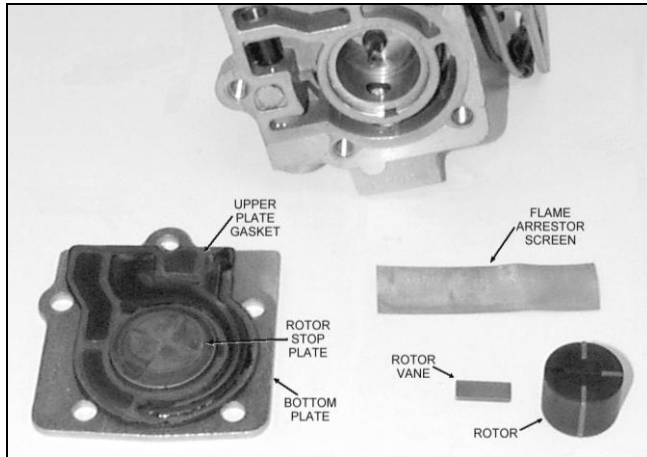

Figure 6
4. Remove the flame arrestor (note the position of the screen). Remove the rotor vanes and rotor by inverting the pump. Lay all pieces on a flat clean surface. See Figure 6.